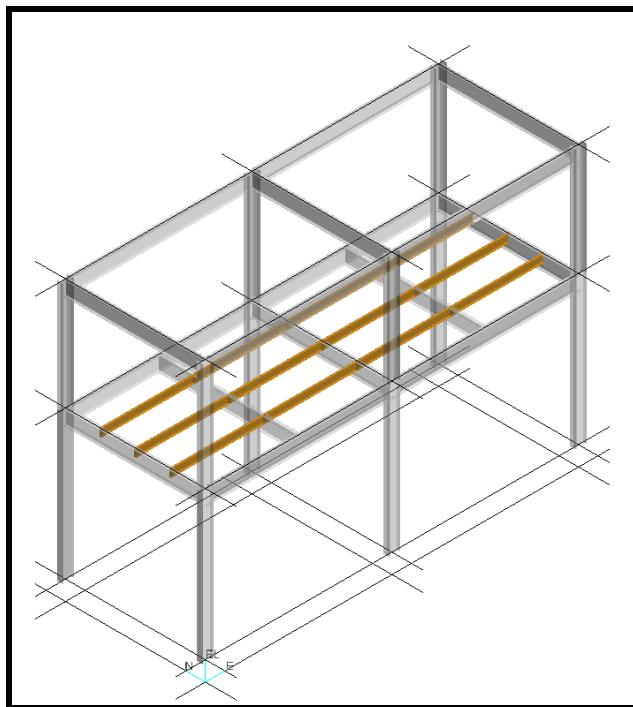

Figure 5 –Isometric View of the Structure U02
- 3 Continue using Place Framing Members command by selecting Supporting Member2 to place framing members as shown in Figure 5.